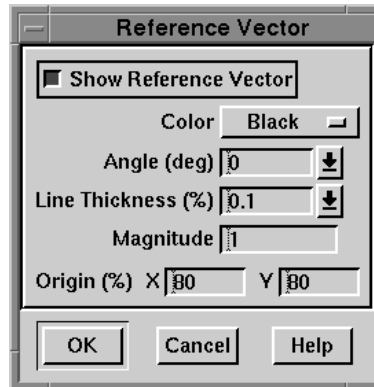

Figure 12-11. The Reference Vector dialog.
1. From the Vector sub-menu of the Field menu, choose Reference Vector. The Reference Vector dialog appears as shown in Figure 12-11.